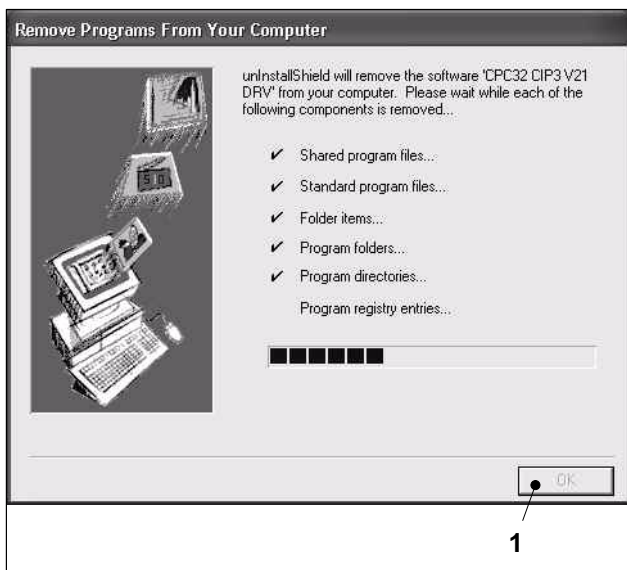
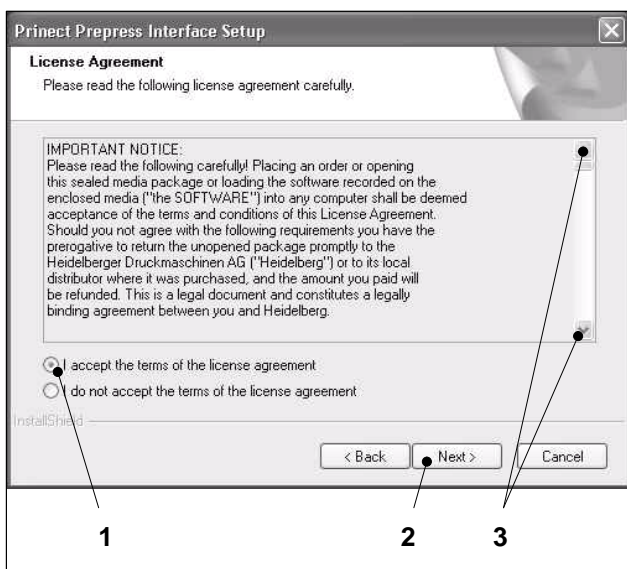
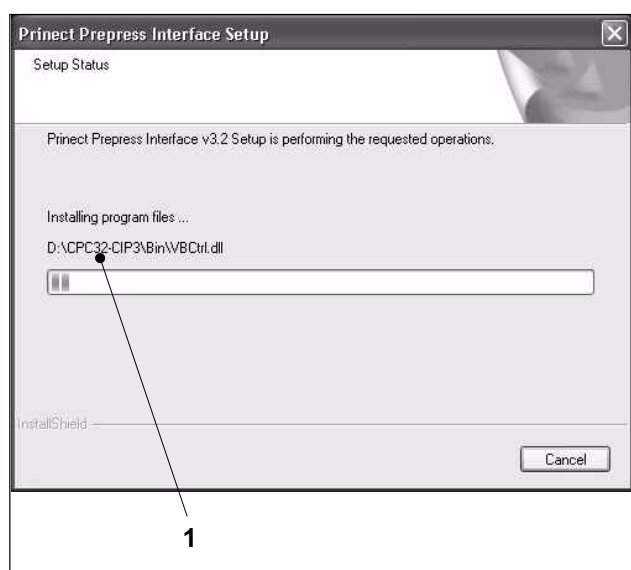

Fig. 23 Deleting the existing program files
Fig. 24 License Agreement
Fig. 25 Progress of the installation process
The dialog window shown in Fig. 23 opens.
7. First of all the driver files ("DRV") and program files ("PRG") of the old version are deleted. Then click on **OK** (Fig. 23/1). The dialog window with the License Agreement is displayed (Fig. 24).
8. Please read the license agreement. Use the arrow keys to scroll up or down the text so that you can read the complete text (Fig. 24/3).
9. If you accept the License Agreement, check the box *accept the items of the license agreement* (Fig. 24/1).
10. Click on **Next** (Fig. 24/2). The "Setup Status" dialog window opens (Fig. 25).